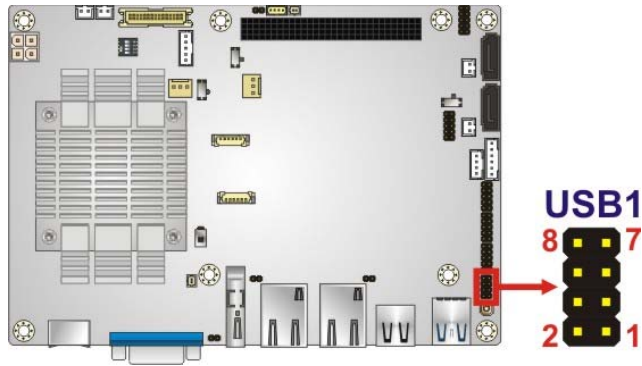

Figure 3-30: USB 2.0 Connector Location
- CN Location:** See **Figure 3-30**